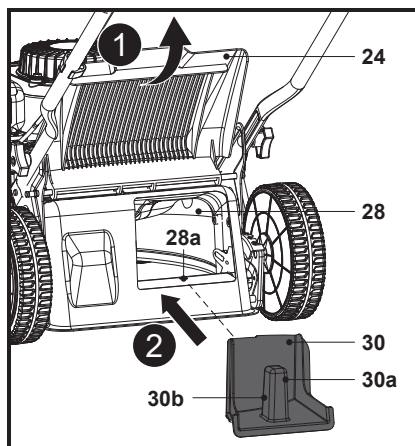

Fig. 15
1. Open the rear deflector guard (24), hold the mulching insert handle (30a) and insert the mulching insert (30) into the rear discharge chute (28) (Fig. 15). Ensure the locking latch (30b) are properly snapped into the rear discharge chute slots (28a).